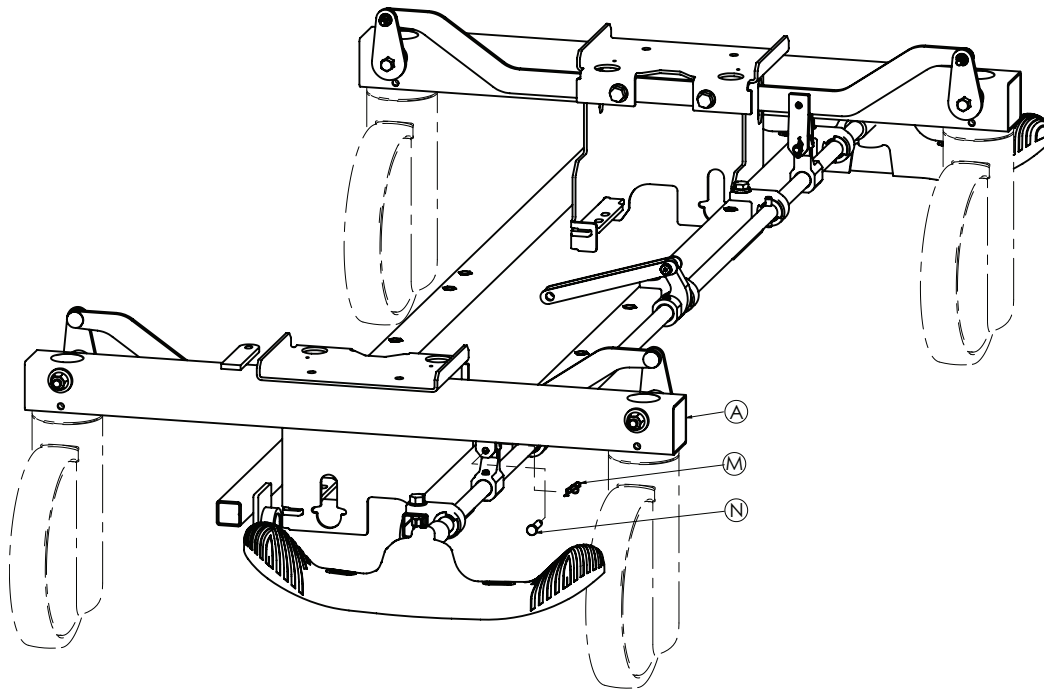

Figure 6 – Brake rod replacement
2. Use needle nose pliers to remove and save the rue ring cotter (M) and clevis pin (N) that secure the brake link assembly to the brake activation crank (Figure 6).